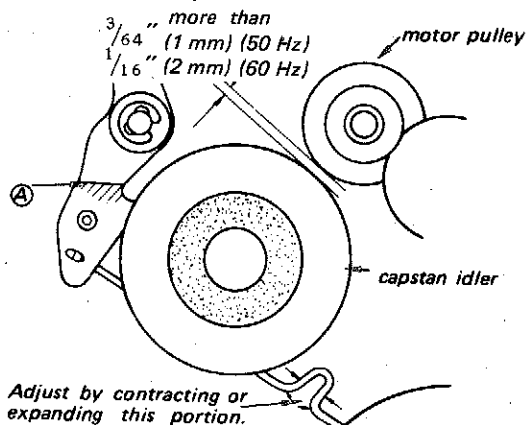

Fig. 1.
Adjust capstan idler height by bending portion (A) in Fig. 1. In vertical operation, capstan idler bottom should not contact motor pulley. (portion ★ in Fig. 2)